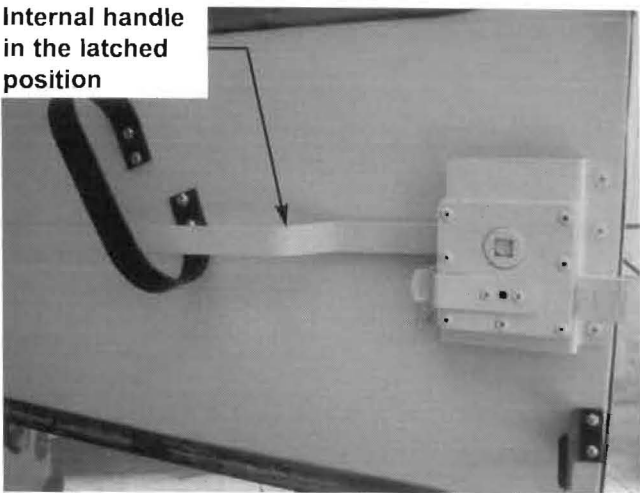

Figure 4
- 3.1 Set the internal handle to the latched position before installing the new external handle. **Figure 4**